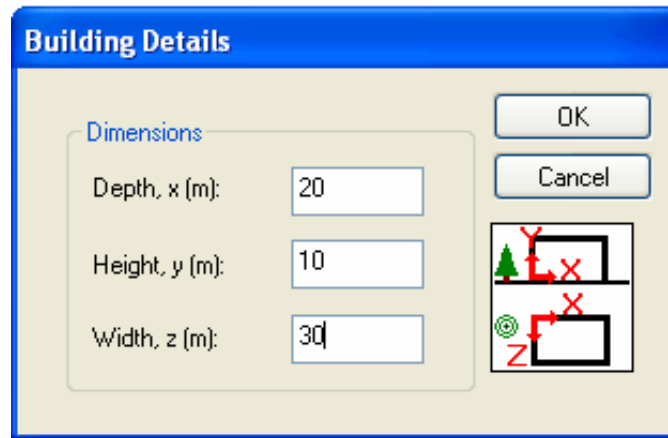

Figure 11 Example Building Details dialog box.
5. Select the **Structure/Building** menu to bring up the Building Details dialog and enter the building dimensions as shown in Figure 11.